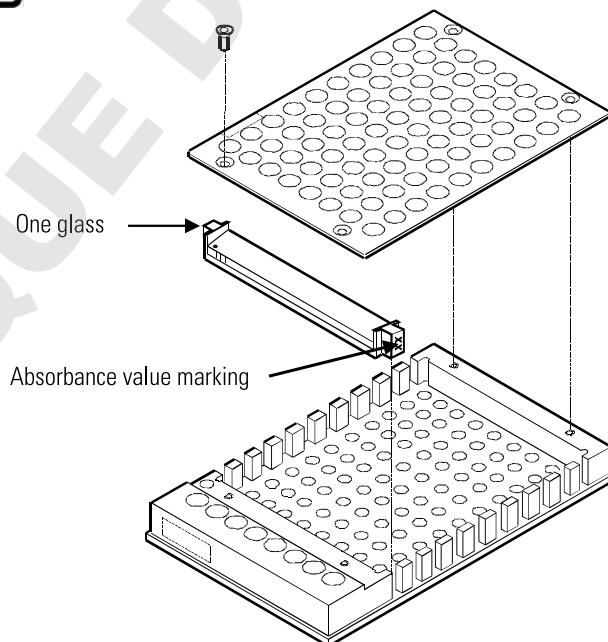

Figure 8–4. Assembly drawing of the Multiskan Verification Plate
- First dismantle the Multiskan Verification Plate as shown in Figure 8–4 on page 27 and check that the glass positioning and the order are correct.
To ensure thorough cleaning, dismantle the Multiskan Verification Plate as shown in Figure 8–4. When assembling, be careful to place the glasses into the Multiskan Verification Plate with the absorbance value marking as indicated below (Figure 8–4).